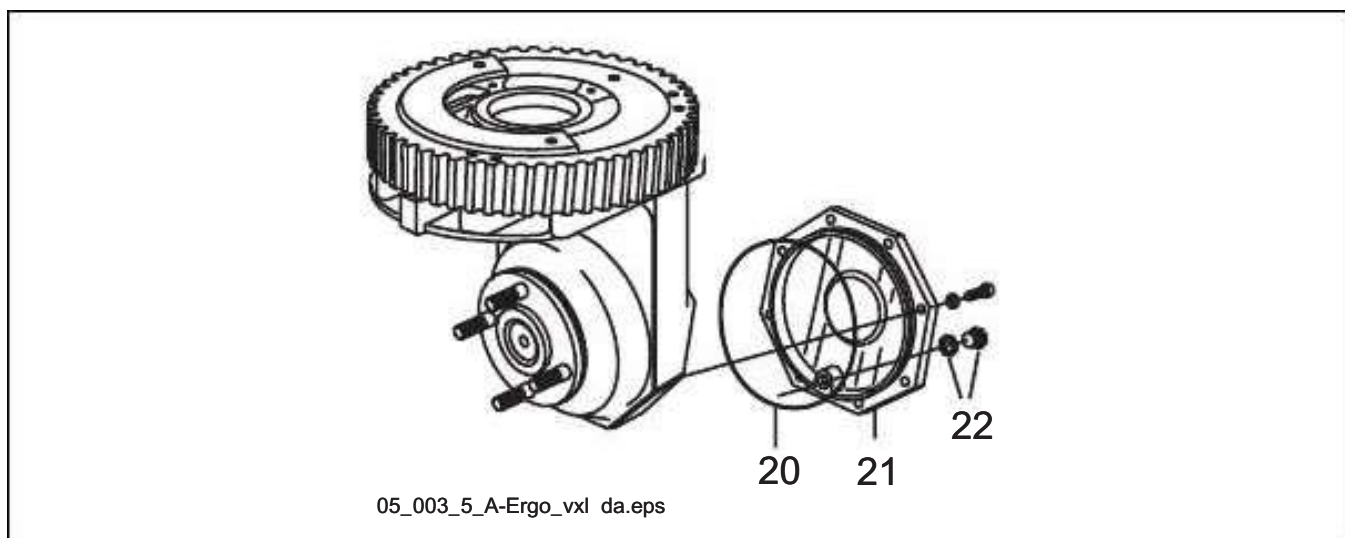

**Figure 5.6** Fit the cover.
6. Fit the cover, pos. 21 (see figure 5.6).